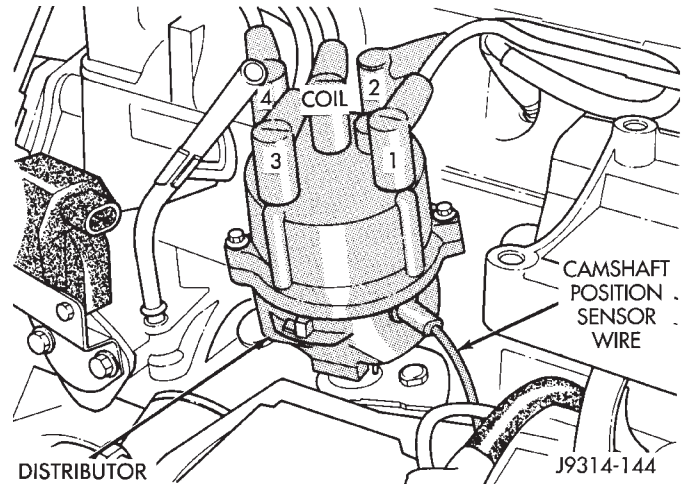

Fig. 7 Distributor and Wiring—2.5L Engine
(5) Verify that distributor cap is correctly attached to distributor. Be sure that spark plug cables are firmly connected to the distributor cap and the spark plugs in their correct firing order. Be sure that coil cable is firmly connected to distributor cap and coil. Be sure that camshaft position sensor wire connector is firmly connected to harness connector (Figs. 7 or 8). Inspect spark plug condition. Refer to Group 8D, Ignition System. Connect vehicle to an oscilloscope and inspect spark events for fouled or damaged spark plugs or cables.